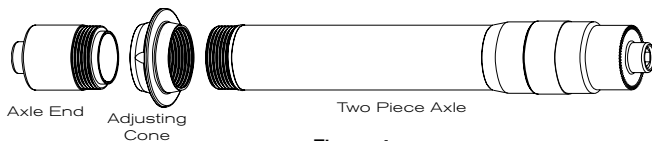

Figure 4
The two piece axle uses an adjusting cone to adjust bearing preload and an axle end cone to lock the preload adjustment. Hubs that are factory assembled with the two piece axle include: ISO front, Universal Disc front, and Universal Disc 140mm rear. **Two piece axle disassembly, reassembly and adjustment procedures can be found on pages 6, 10 and 11.** The two piece axle design (see Fig. 4) is designed for a skewer-type retention device and must not be modified or altered to accept any type of bolt-on retention device.
- Chris King front ISO hubs are designed to work with 100mm and 110mm fork drop out spacing. Do not attempt to use your hub with any other dropout spacing. The two piece axle design (see Fig. 4) is designed for a skewer-type retention device and must not be modified or altered to accept any type of bolt-on retention device.
The earlier two piece axle (see Fig. 4) is designed for exclusive use with a skewer-type retention device and the hub can only be used with FunBolts by replacing the two piece axle with the one piece axle. Do not modify or alter two piece axle systems to accept thru-bolt retention devices.